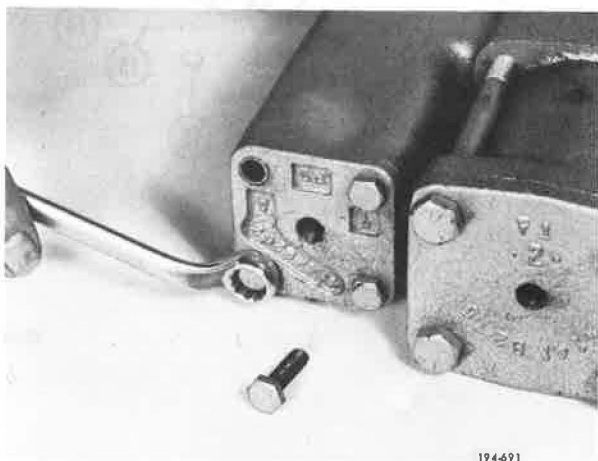

Figure 5-791. Removing Capscrews
3. Remove reverse shift cover capscrews. See **Figure 5-791**.